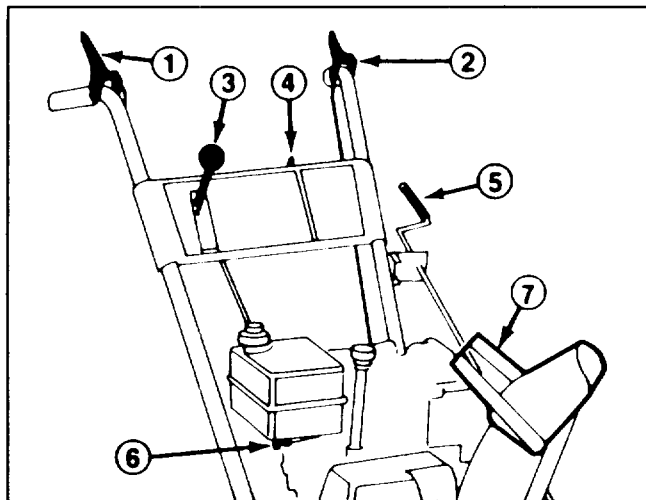
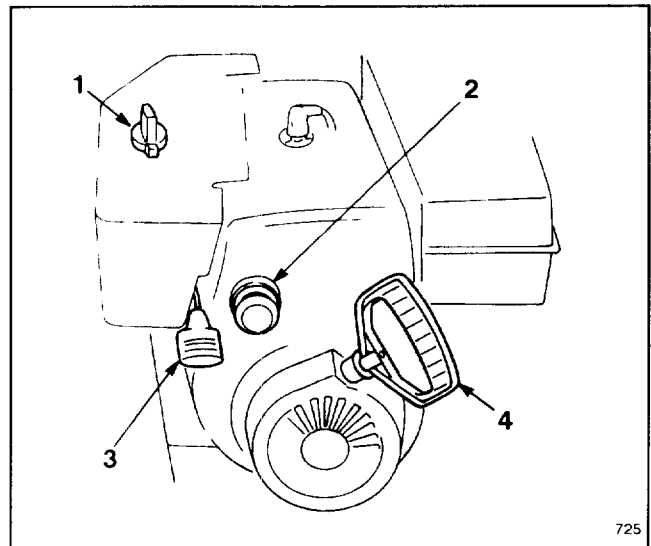
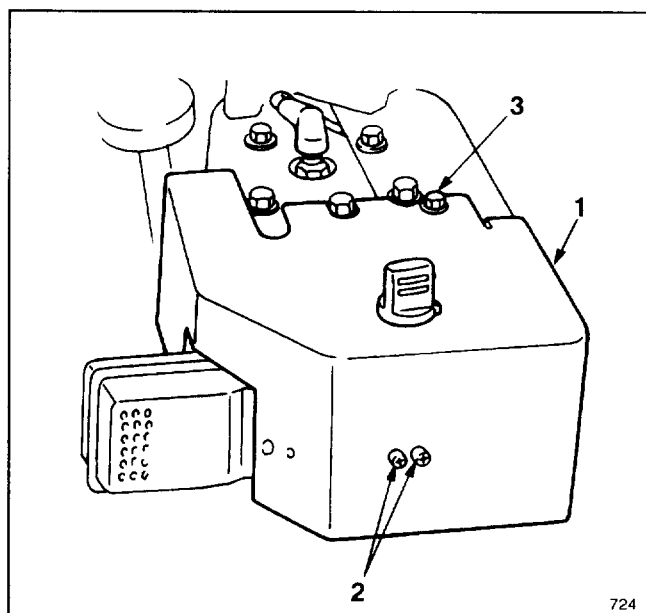

Figure 14
Figure 15
Figure 16
Auger Drive Control (Fig. 14)—Control has two positions: ENGAGE and DISENGAGE. To engage both auger and impeller, compress lever against right handgrip. To disengage, release lever.
Traction Control (Fig. 14)—To engage traction (wheel drive), lever must be compressed against left handgrip. To stop traction, release lever.
Speed Selector (Fig. 14)—The control has four positions: reverse, 1, 2 and 3. To change speeds, move gear shift to position desired. Lever will lock in notch at each speed selection. Use positions 1, 2 or 3 depending on snow conditions.
Ignition Switch (Fig. 14)—Switch has two positions: ON and OFF. Rotate key to ON position before starting engine with the recoil starter. To stop engine, rotate key to OFF.
Throttle (Fig. 15)—Moving the throttle upward increases engine speed.
Choke (Fig. 15)—Rotate choke to FULL choke position to start a cold engine. As engine warms up, move choke gradually to OFF.
Primer (Fig. 15)—Press primer to pump a small amount of gasoline into engine for improved cold weather starting.
Fuel Shut-Off Valve (Fig. 14)—Valve is located under fuel tank. Close valve by rotating it to the right to stop fuel flow from fuel tank. Open valve by rotating it to the left to allow fuel to flow to the carburetor. Close valve when snowthrower is not in use.
Discharge Chute Control (Fig. 14)—Rotate discharge chute control clockwise to move discharge chute to the left and counterclockwise to move chute to the right.
Recoil Starter (Fig. 15)—Recoil starter is on back side of engine. Pull recoil starter to start engine.
Chute Deflector Handle (Fig. 14)—Deflector handle is on top of discharge chute, and it is used to control height of the snow stream.
Note: If engine is operated when temperature is +40° F (4° C) or higher, remove carburetor heater box (Fig. 16). However, the heater box must be reinstalled when temperature falls below +40° F (4° C). To remove heater box:
- A. Remove (2) phillips screws and (1) hex head screw securing heater box in place (Fig. 16). Pull choke knob off choke rod (Fig. 15).
1. Move throttle (Fig. 15) to FAST.
2. Open fuel shut-off valve below fuel tank (Fig. 14) by rotating valve to the left.
3. Rotate choke (Fig. 15) to full choke position.
4. Rotate ignition key (Fig. 14) to ON.
6. Grasp recoil starter handle (Fig. 15) and pull it out slowly until positive engagement results; then pull vigorously to start the engine. Keep firm grip on starter handle and return the rope slowly.
7. After engine starts, immediately rotate choke (Fig. 15) to 3/4 position. As engine warms up, rotate choke to 1/2 position; then to OFF position. If engine falters, return choke to 1/2 position. When engine warms sufficiently, rotate choke to OFF position.
1. Release traction and auger drive controls (Fig. 14).
2. Move throttle (Fig. 15) to slow and rotate ignition key (Fig. 14) to OFF.